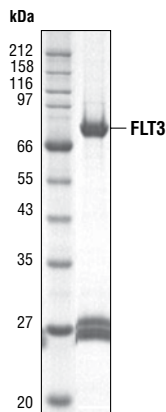

Figure 1. The purity of the GST-FLT3 fusion protein was analyzed using SDS/PAGE followed by Coomassie stain.
**Quality Control:** The theoretical molecular weight of the GST-FLT3 fusion protein is 73 kDa. The purified kinase was quality controlled for purity using SDS-PAGE followed by Coomassie stain [Fig.1]. FLT3 kinase activity was determined using a radiometric assay [Fig.2].